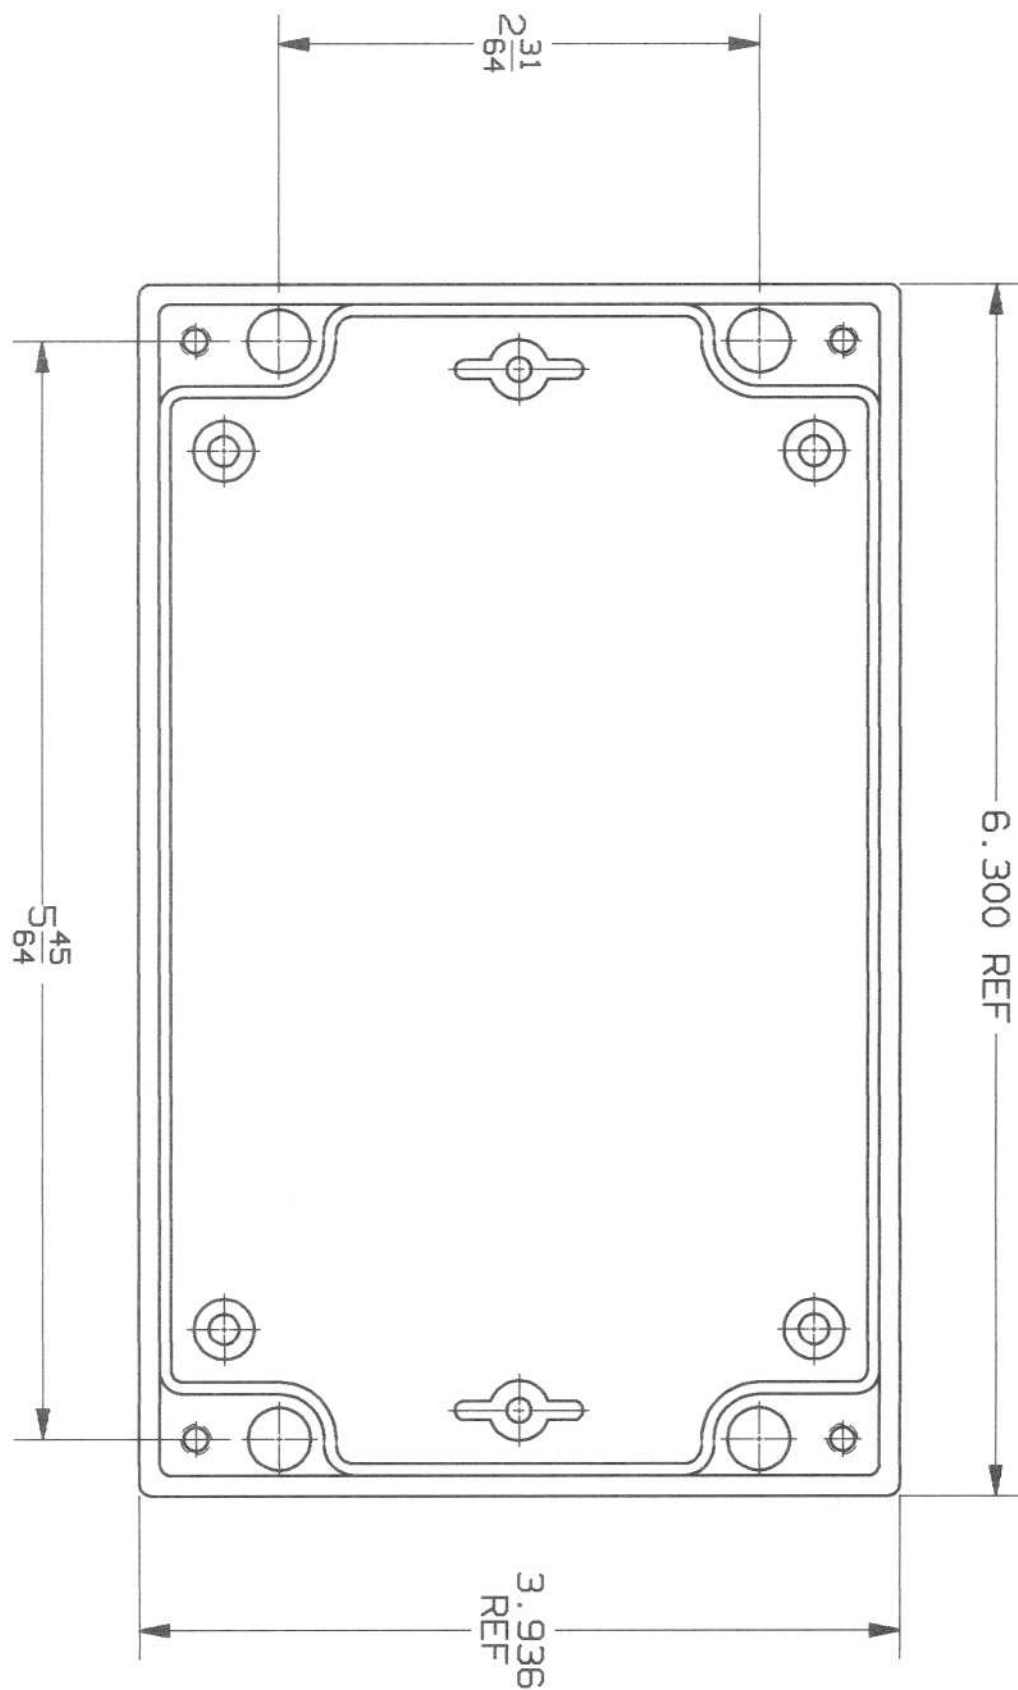

Figure 3: M-RIM Mounting Template
- ☐ Drilling Template (**Figure 3**)